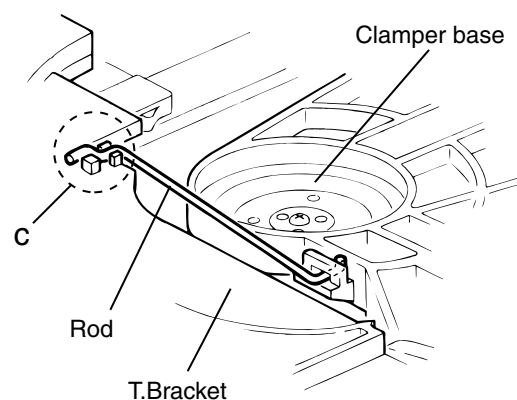

Fig.2
■ Removing the DVD tray assembly (See Fig.2~4)
6. From the clamber base section c, remove both of the edges fixing the rod (See Fig.2 and 3).